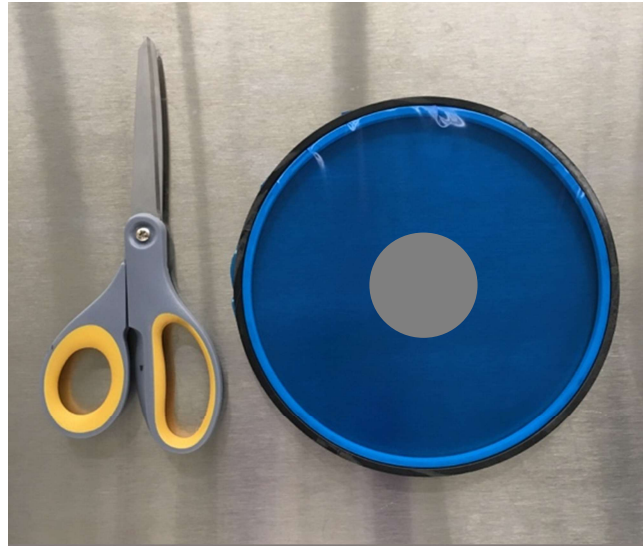

Figure 1: A wafer placed on the blue tape with excess tape cut off.
- v. Cut excess tape using scissors. See Figure 1.